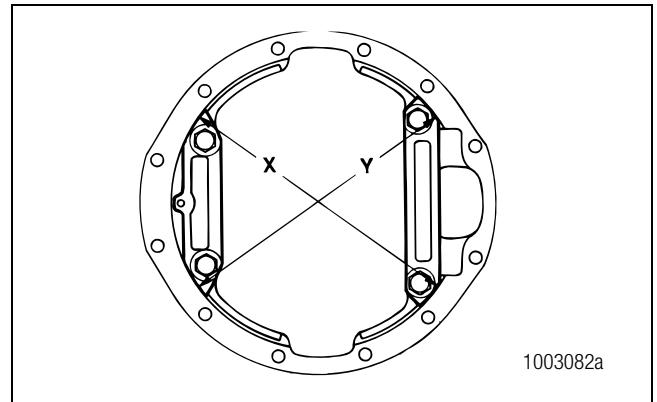
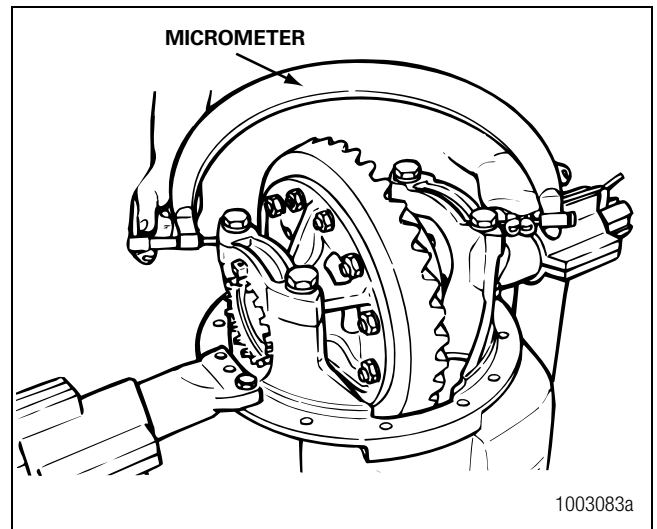

Figure 5.33
Figure 5.34
2. Use a micrometer to measure the opposite surfaces of the bearing caps at X or Y. Figure 5.33 and Figure 5.34. Record the measurement.